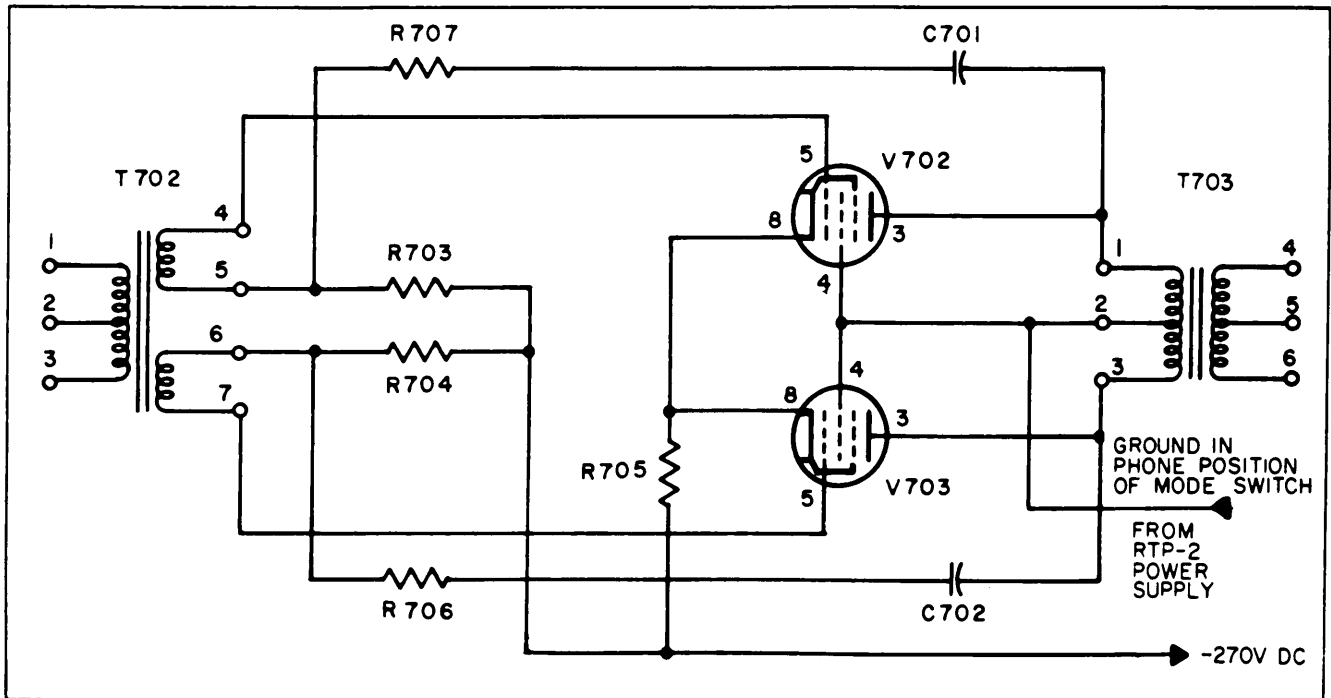

Figure 4-19. Push-Pull Modulator Driver V702, V703, Simplified Schematic Diagram
(2) PUSH-PULL MODULATOR DRIVER V702 and V703. - When the MODE switch on the RTP-2 power supply is placed in the PHONE position, a ground is applied to pin 2 of transformer T703, thereby applying operating voltage to modulator driver V703 and V704. (See figure 4-19.) The audio signal developed across